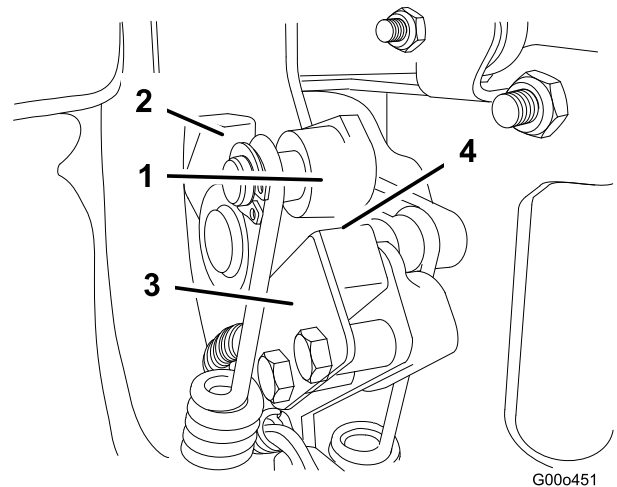

Figure 28
2. Engage traction lever until it contacts neutral stop (Figure 28).
3. Loosen interlock switch mounting fasteners (Figure 28).
4. Place a .032" thick shim between the traction lever and the interlock switch (Figure 28).